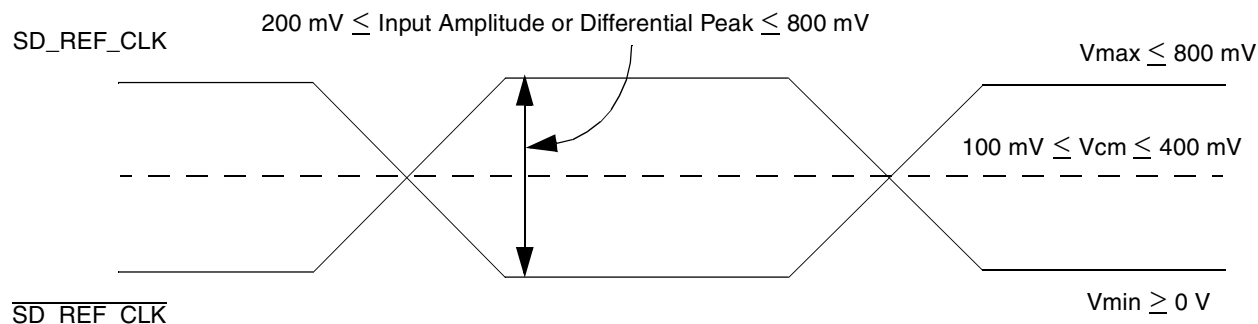

**Figure 41. Differential Reference Clock Input DC Requirements (External DC-Coupled)**
- For **external DC-coupled** connection, as described in section 13.2.1, the maximum average current requirements sets the requirement for average voltage (common mode voltage) to be between 100 mV and 400 mV. Figure 41 shows the SerDes reference clock input requirement for DC-coupled connection scheme.